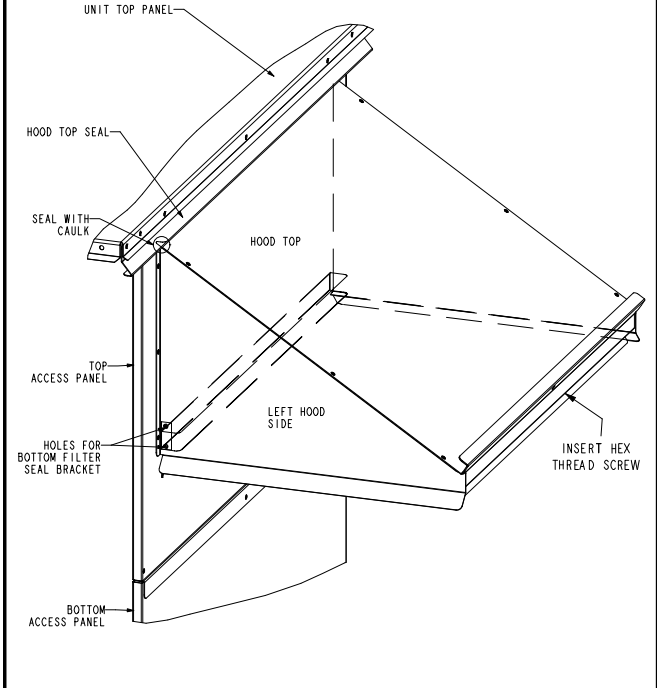

FIGURE 10
- 5- Secure the hood right side to the hood top. Do not secure the hood right side to unit. See figure 10.
- 8- Slide filter into the slot on the bottom filter seal bracket. Secure the hood top filter bracket to the hood top using the hex thread insert and screw provided. See figure 10.